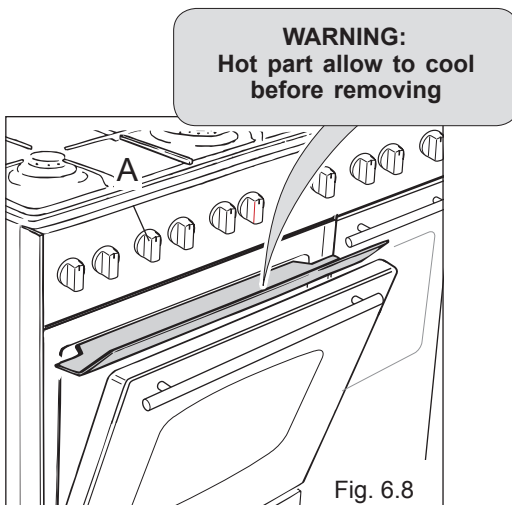

Fig. 6.8
IMPORTANT: the grill must always be used with the oven door ajar and with shield "A" mounted (fig. 6.8).
Do not close the oven door completely. The grill must always be used with the oven door slightly open and with shield "A" mounted (fig. 6.8).
Very important: the grill must always be used with the oven door slightly open and with shield “A” mounted (Fig. 6.8).
- It is important that the heat shield is fitted the correct way up, as shown in the figure 6.8.